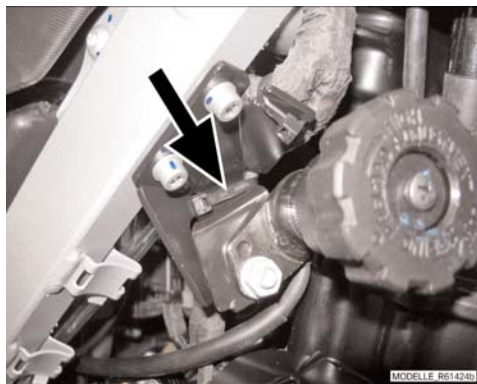

Figure 4: second cable tie
- 4) Use two cable ties (as shown in Figures 4 & 5) to secure the wiring harness to the bracket of the adjuster knob, making sure that the wiring harness is routed clear of the banjo bolt by a sufficient margin.